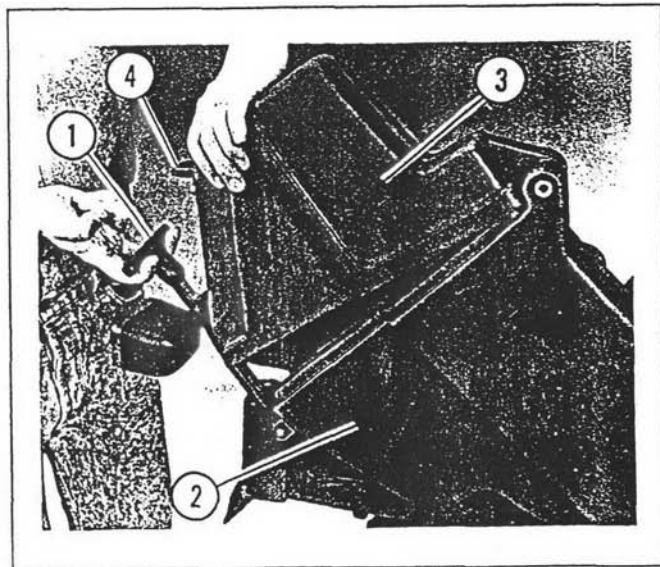

Figure 6-2. Gun Box
1. See Figure 6-2. Pull rubber "T" strap (1) up and away from receptacle (4). Open gun box cover (3). Remove weapon.
2. To close gun box cover place cover (3) on gun box (2). Stretch rubber "T" strap (1) up and over receptacle (4).